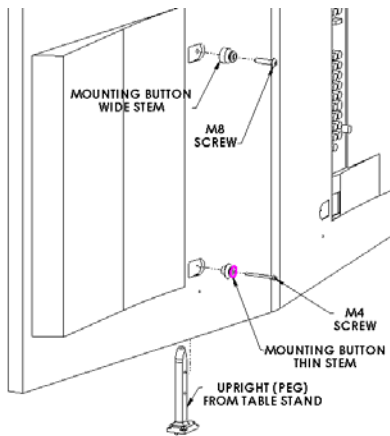
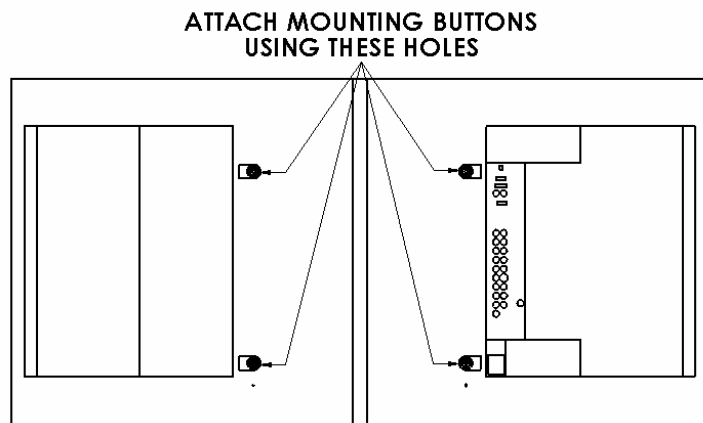

Figure 4
Figure 5
3. Slide threaded uprights from Step 2 into bottom of screen, making sure the flat surface of the uprights faces the back of the display (see Figure 4). These will allow you to attach lower mounting buttons.
4. Attach mounting buttons to display by using both sets of mounting buttons and their respective screws (see Figure 4 & Figure 5).